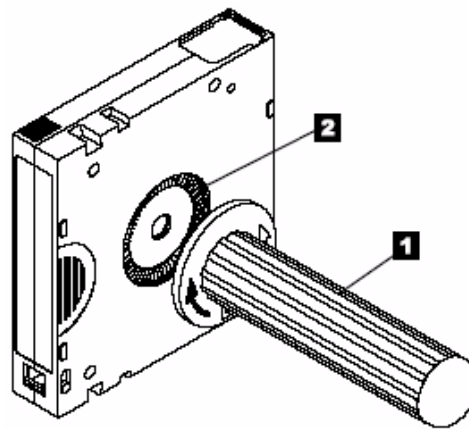

Figure 4-6 Rewinding the tape into the cartridge
5. To rewind the tape, insert the cartridge manual rewind tool (1 in Figure 4-6) into the cartridge's hub (2) and turn it clockwise until the tape becomes taut.